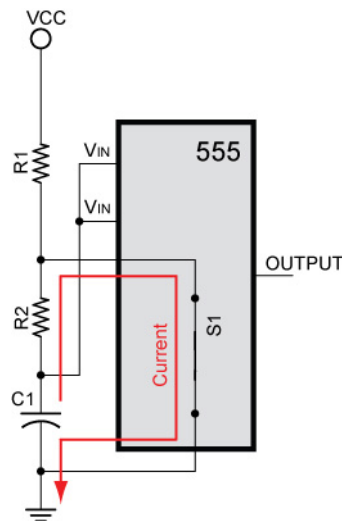

Figure 2, C1 Discharging through R2
- When the voltage across C1 reaches $\frac{2}{3} V_{CC}$, the 555 timer acts as an electronic switch, shorting R2-C1 to ground (Figure 2). C1 discharges through R2.